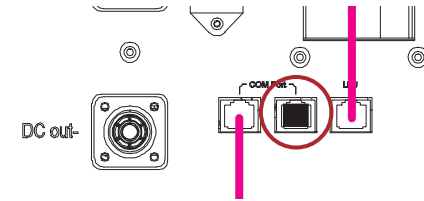

Figure 4-10 Terminal resistance in one of the HV900112
D. Another COM port of HV900112 should be inserted with the terminal resistance from system parts list. You can see the detailed information in Figure 4-10.